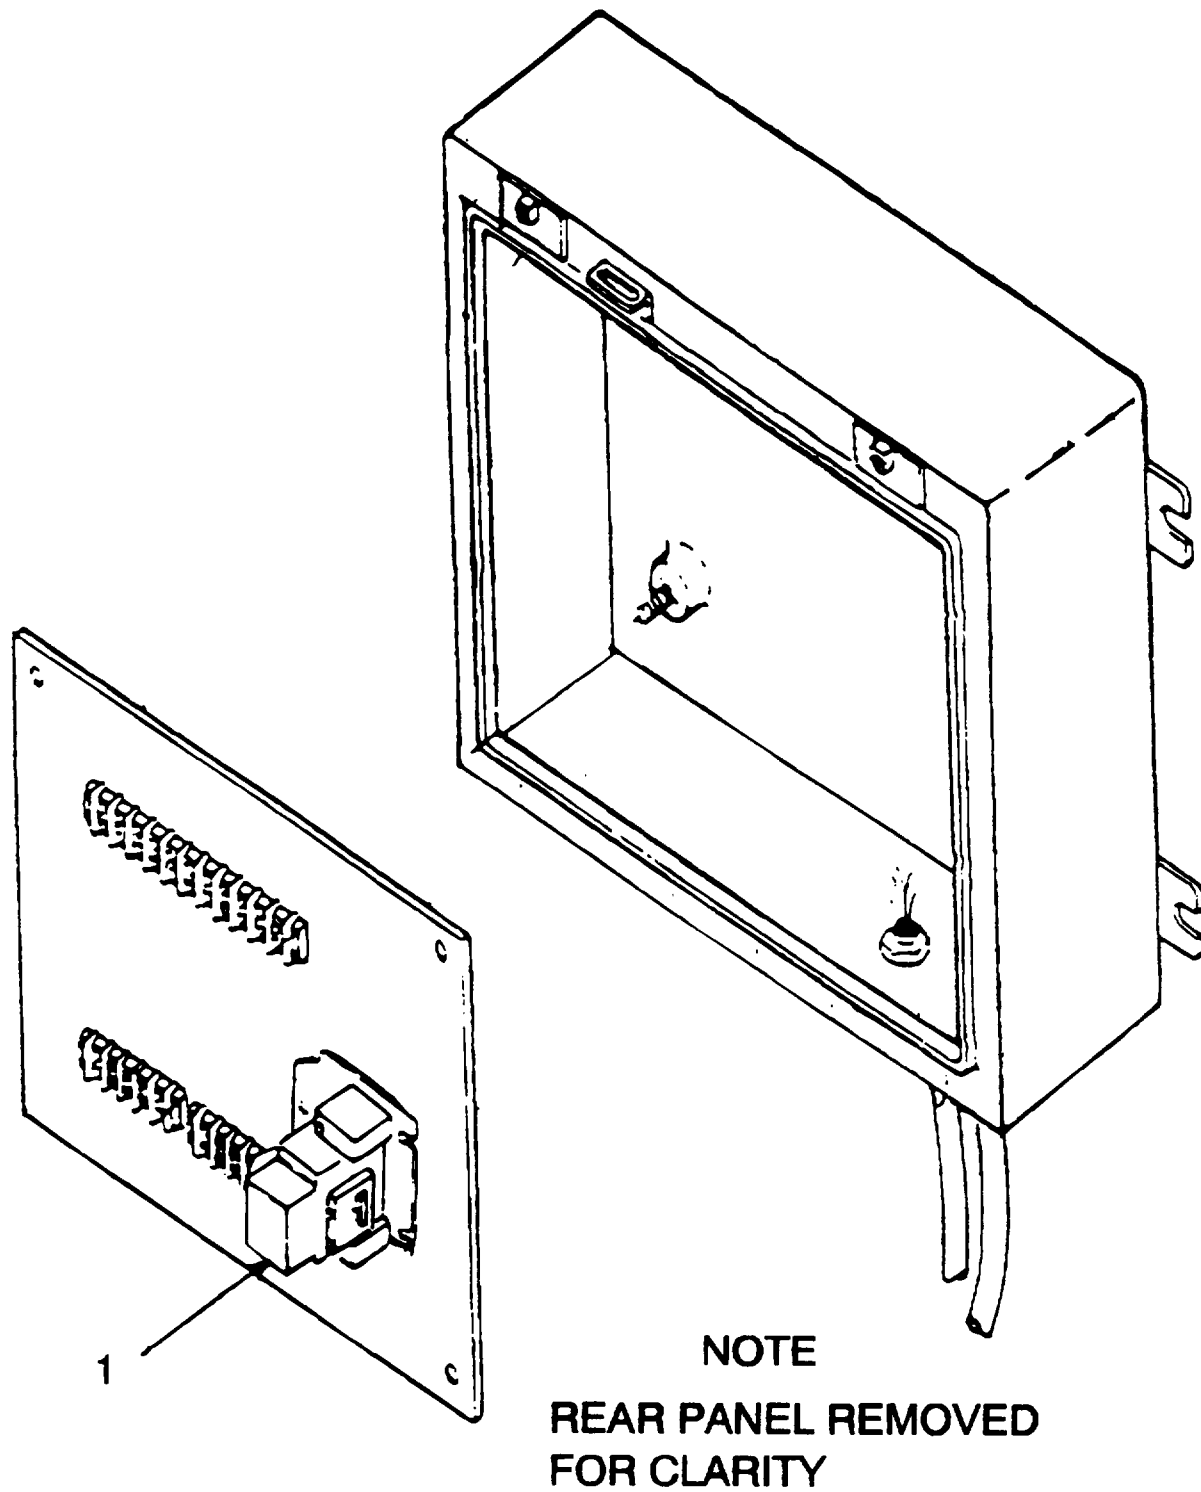

Figure 4-16. Control Panel Assembly.
- (2) Tag and disconnect wiring from S1 (1, fig. 4-16).
- (1) Remove tags from wiring and connect to appropriate terminals on S1 (1, fig. 4-16).